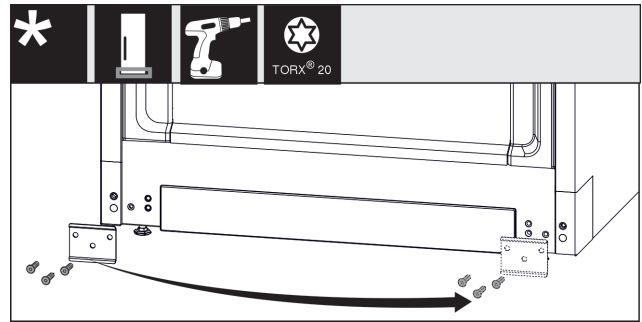

Fig. 30
- ▶ Unscrew the plate Fig. 30 (1), move it to the other side and screw it back on.